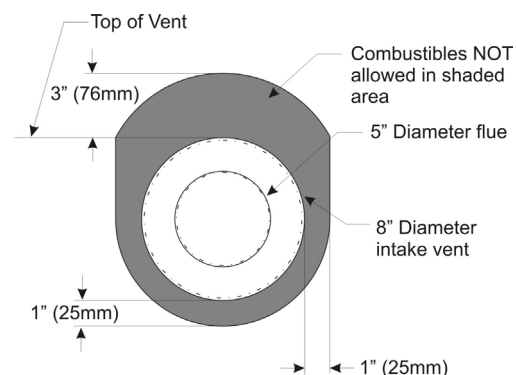

Figure 58
4. Install the Wall Firestop/Thimble assembly as required through the wall. Refer to the venting charts in the fireplace manual to determine the proper height and size of the vent opening. The minimum opening should be 10" wide by 12" high. The minimum combustible clearance from the horizontal vent is 1" from sides and bottom, and 3" above the vent pipe. **See Figure 58.**